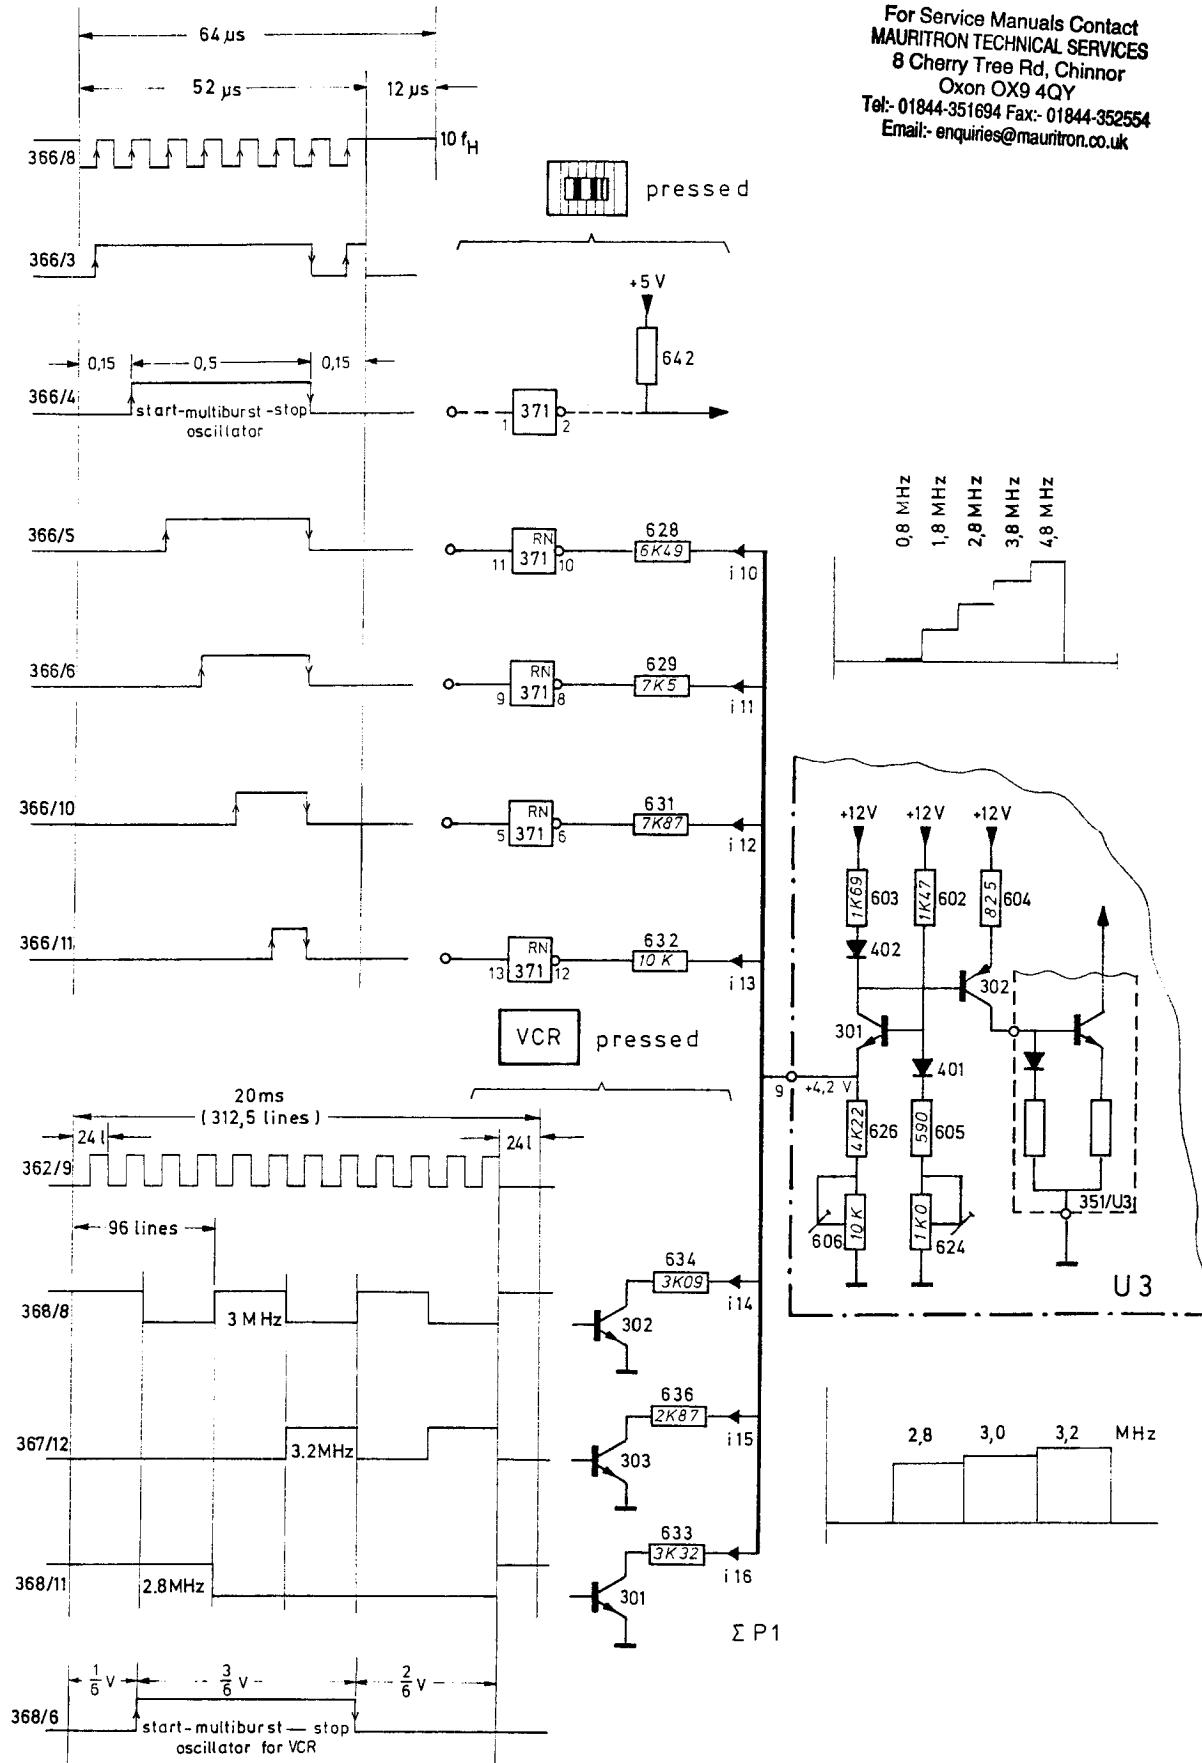
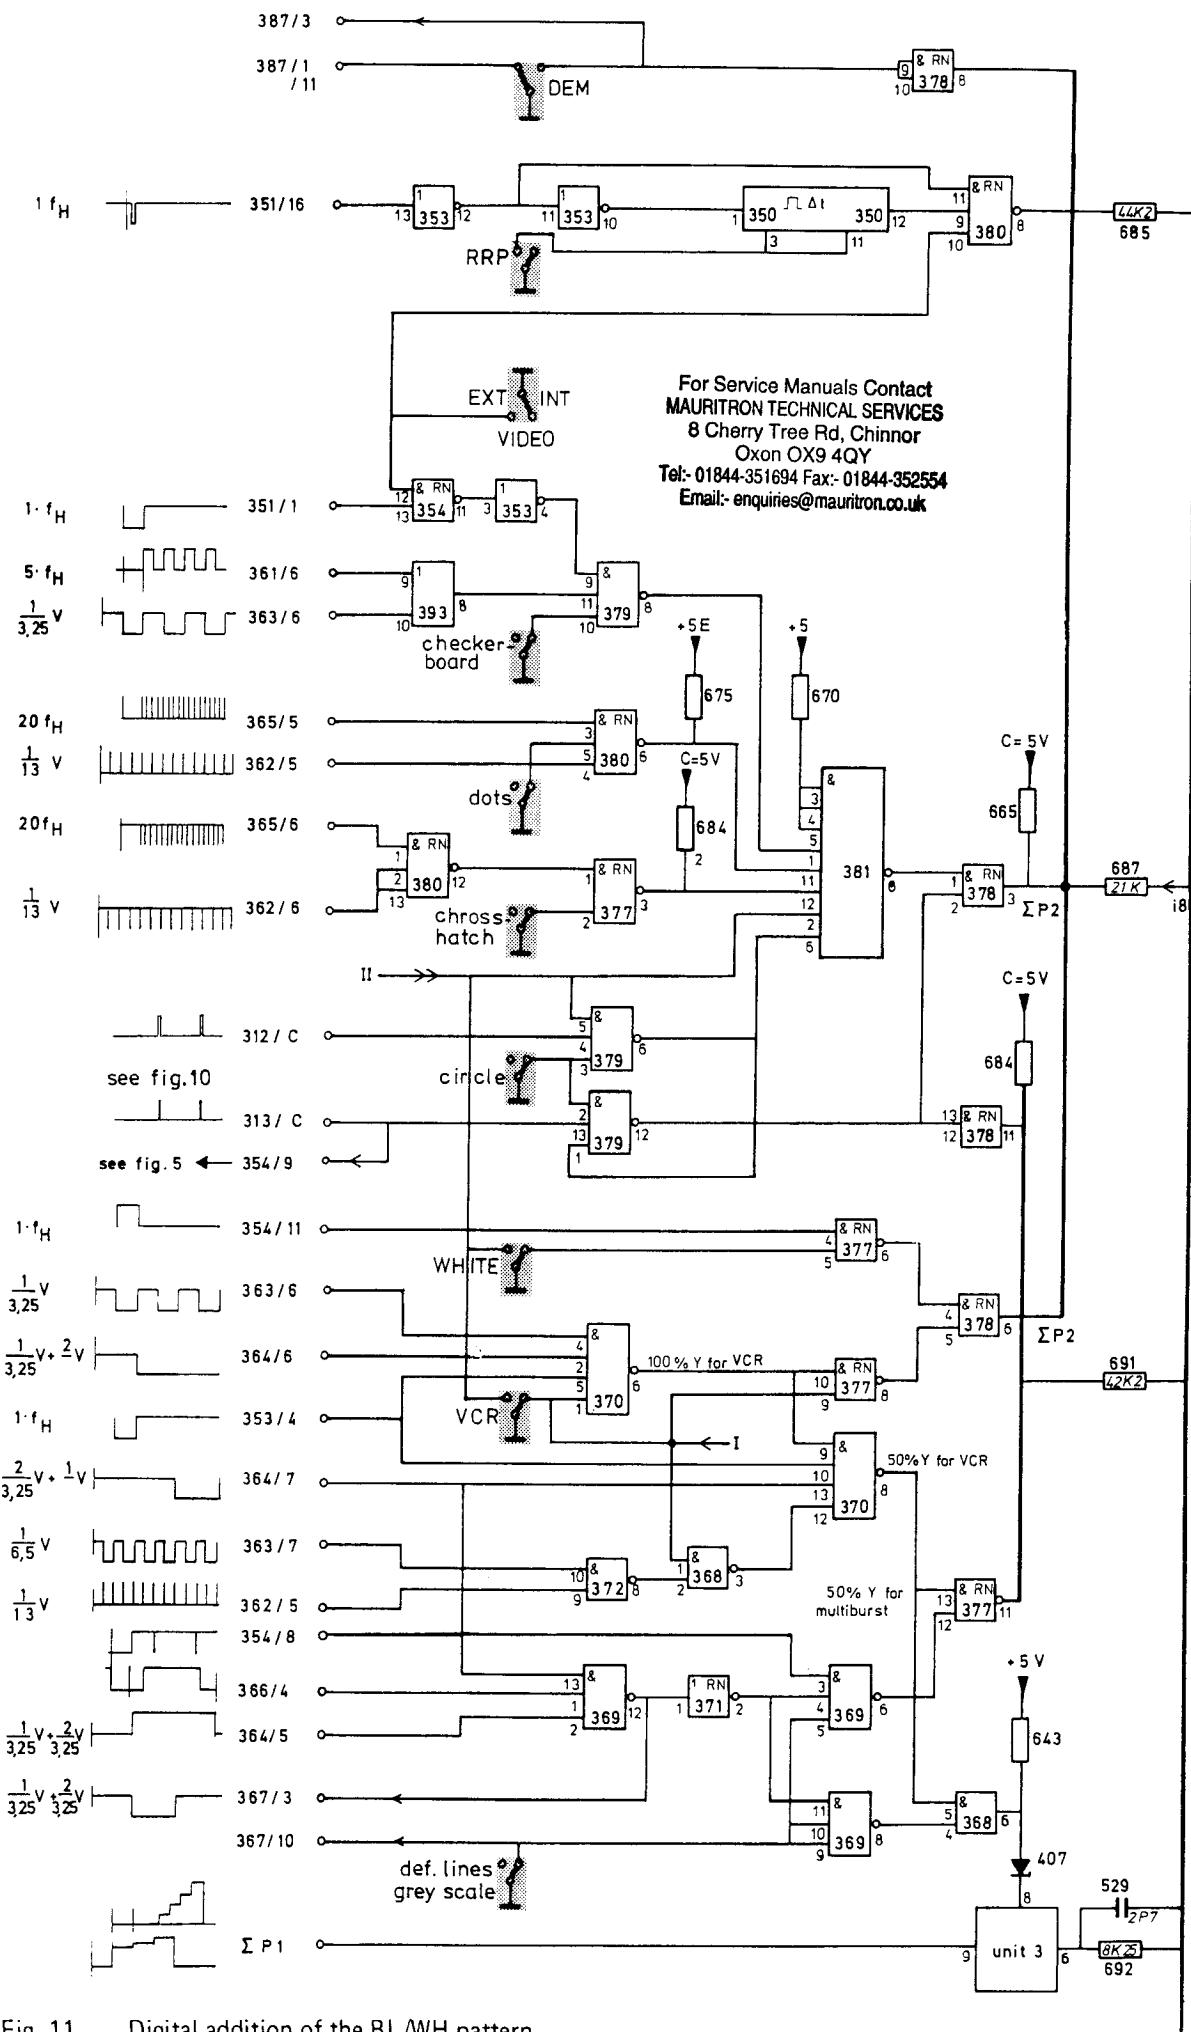

Fig. 9 Control signals for multiburst oscillator
Fig. 11 Digital addition of the BL/WH pattern
The staircase signals for control of the multiburst oscillator, input unit 3 in fig. 9, are generated by summing the components of the generator 366/4/5/6/10/11 for the 5 vertical bars with different frequency groups (definition lines).
- 2.2.4.1. **In line rhythm** the inputs of the inverters 371/11/9/5/13 progressively receive H-level and thus 'switch' the concerning resistors, connected to the summing point ΣP_1 , via 371/... single-ended to ground. By this the summing point, being at a dc level of 4.2 V, is deprived of current, compensated by the input stage. In principle this input circuitry of the multiburst oscillator is a current/voltage/current converter, fig. 9.
The pulses which generate the stepwise increasing current into pin 9/U3 are shown in fig. 9. Just as this current the multivibrator frequency changes too (5 groups or 3 groups).
2.2.6. Synthesis of the Black/White test patterns, figs. 11 and 12
Fig. 11 shows the connections between the required components for activation and inhibition of the chosen test pattern and the connection to the digital summing junction $\Sigma P2$. This summing junction $\Sigma P2$ is connected to the main summing junction $\Sigma P3$ via the resistor 687/U10, determining the amplitude. The potential of $\Sigma P3$ is +5 V; 100 % White means no current through resistor 687/U10 and high level at $\Sigma P2$.
The gates 379/6, 380/6, 377/3 (see fig. 11) are inhibited, because of low level at one input of each gate. The NAND-gate 381/8 couples the square wave signals $5 f_H$ (393/9) and $1/3.25$ V (393/10) to the summing junction $\Sigma P2$, if no other pushbutton (VCR, white) is depressed. The AND-gate 393/8 combines the horizontal checkerboard pulses $5 f_H$ with the vertical $1/3.25$ V pulses to 8 vertical checkerboard-bars and 6 horizontal one's. White pattern squares are generated, if $5 f_H$, $1/3.25$ V and the blanking signal f_H have high level. So the NAND-gate 379/8 gets low level, NAND-gate 381/8 high level and the current in resistor 687/U10 is inhibited.
The gates 381 and 378/3 are combining the circle pulses with all test-pattern signals generated in this section (fig. 11). In the white squares of the checkerboard circle pulses 312/C are engraved by 379/6 (pulse width 312/C being larger than 313/C). In this engraved black circle the white circle 313/C is added by 379/12 and 378/2.
The NAND-gates 370/6, 377/8 and 368/3 are inhibited by the VCR switch (see fig. 11); the output level is high. By combination of the vertical signals 364/7 and 364/5 the vertical start-stop signal for the multiburst oscillator in 368/6 is generated. The horizontal start-stop signal is given by the signals in fig. 9. The composite blanking signal 353/4 stops the luminance during the blanking time. Above mentioned signals are combined with the composite blanking signal 354/8 (signal includes the circle blanking, if circle push-button is depressed) to the 50 %-Y signal (luminance) in the NAND-gate 377/11. The current 50 %-Y is coupled by resistor 691/10 to $\Sigma P2$. The grey scale is described in 2.2.4.3.
The summing junction $\Sigma P2$ has low level via AND-gate 378/8, fig. 11.
The depressed VCR pushbutton (fig. 11) enables the NAND-gates 370/6, 377/8 and 368/3 and disables the NAND-gates 379/6 and 381/8. The signals 363/6 and 364/6 are combined in 370/6 to a 1/6 V pulse, which switches the 100 % white to $\Sigma P2$. The following 3 horizontal bars are separated by a "one-line"-blanking pulse (black luminance). This special signal is generated by combination of the signals 363/7, 362/5, 364/7 and 353/4 and helps to see the limits between the 3 horizontal bars of frequency groups (2.8, 3.0 and 3.2 MHz). The required composite-blanking signal 354/8 (signal includes circle blanking pulses, if pushbutton "circle" is depressed) is coupled via the NAND-gate 369/6.